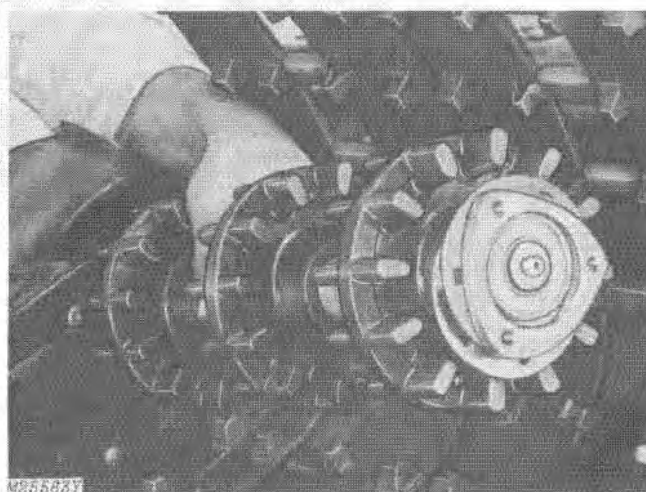

Fig. 2-Removing Track Drive Shaft
5. Move drive shaft toward chain case side. Lift end with spacer to remove shaft, Fig. 2.